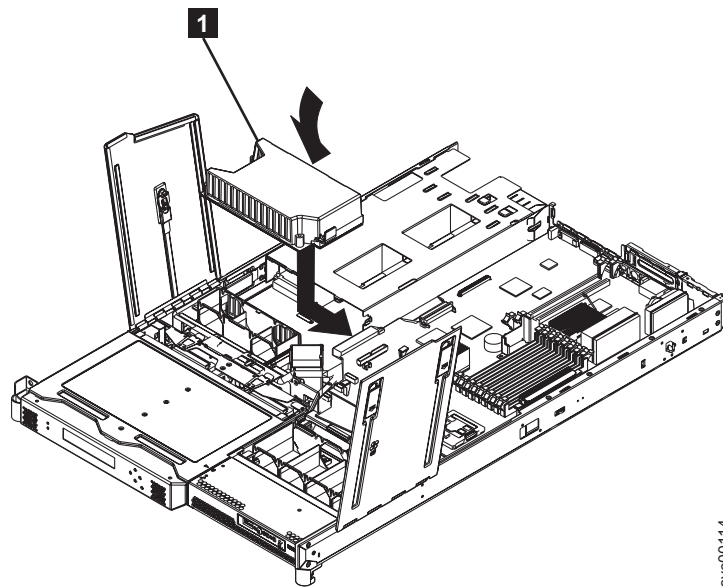

Figure 150. Replacing the power backplane
1. Lower the power backplane into position on the SAN Volume Controller 2145-8F2 or SAN Volume Controller 2145-8F4 and slide it to the right to connect it to the system board. See Figure 150.